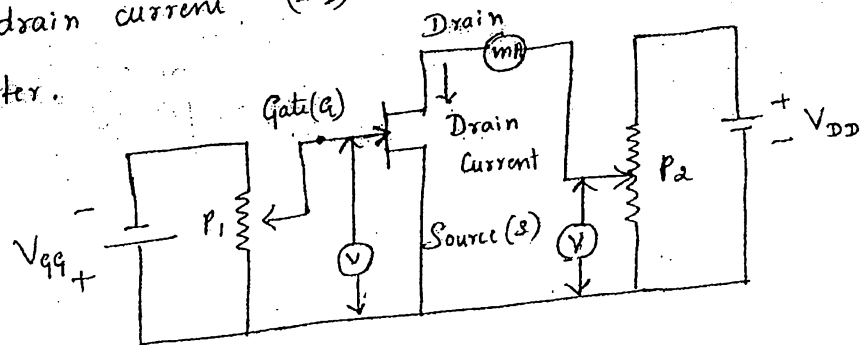

Figure 17
- Figure 17 shows the circuit diagram of JFET to determine drain ~~and~~ characteristics of JFET. The potentiometer (P_1) is used to vary the gate to source voltage V_{GS} and potentiometer P_2 is used to vary the drain to source voltage V_{DS} . The V_{GS} and V_{DS} voltages are measured by voltmeters and drain current (I_D) can be measured by milli-ammeter.